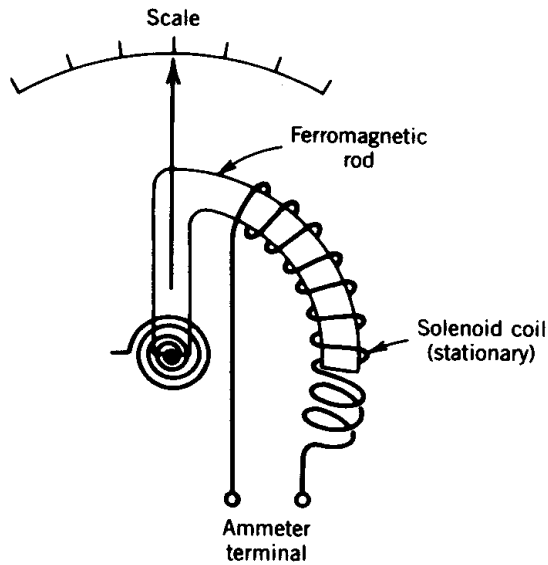

FIGURE P3.8
- 3.8 The features of a moving-iron ammeter are shown in Fig. P3.8. When current flows through the curved solenoid coil, a curved ferromagnetic rod is pulled into the solenoid against the torque of a restraining spring. The inductance of the coil is $L = 4.5 + 18\theta \mu\text{H}$, where θ is angle of deflection in radians. The spring constant is $0.65 \times 10^{-3} \text{ N} \cdot \text{m}/\text{rad}$.